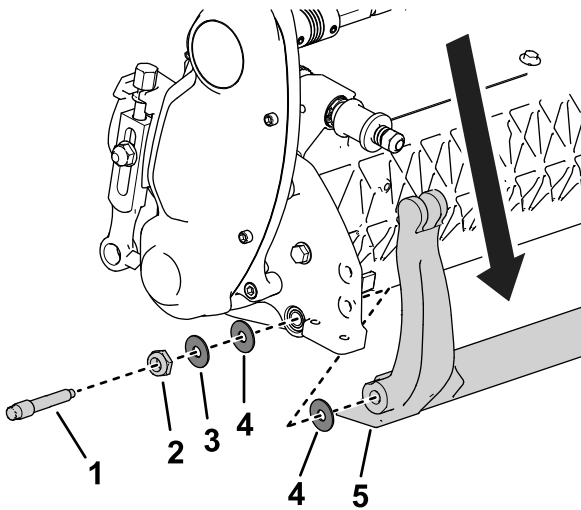

Figure 20
3. On each side of the machine, loosen the locknut shown in Figure 20.
4. Remove each bedbar bolt, allowing the bedbar to be pulled downward and removed from the cutting unit (Figure 20).
Account for the 2 nylon washers and 1 steel washer on each end of the bedbar (Figure 20).
3. Position a nylon washer on each side of the side-plate boss. Place a steel washer outside each of the nylon washers (Figure 20).